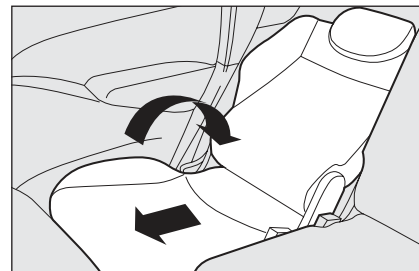

fig. 50
- tilt the passenger seat to “table” position **fig. 50** (see “Setting the passenger’s seat to table configuration” in this section);
- move the rear seat back rest to the required position **fig. 50**.